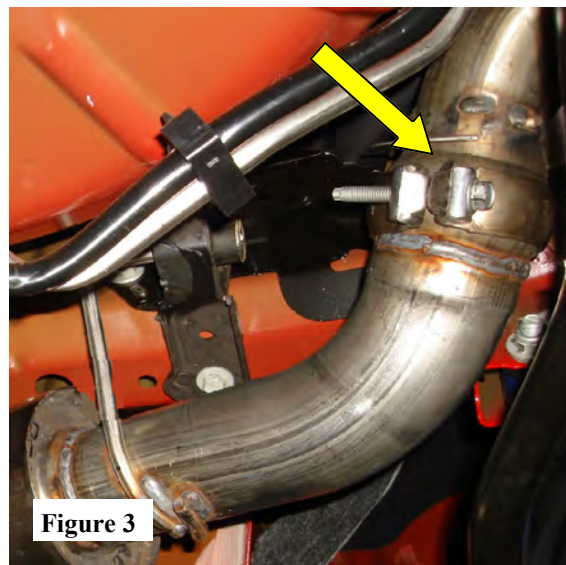

Figure 3
1. Insert the expanded end of the (driver-side) L/H muffler assembly into OE ball clamp and install the hangers into the rubber isolators. (See Fig. 3)